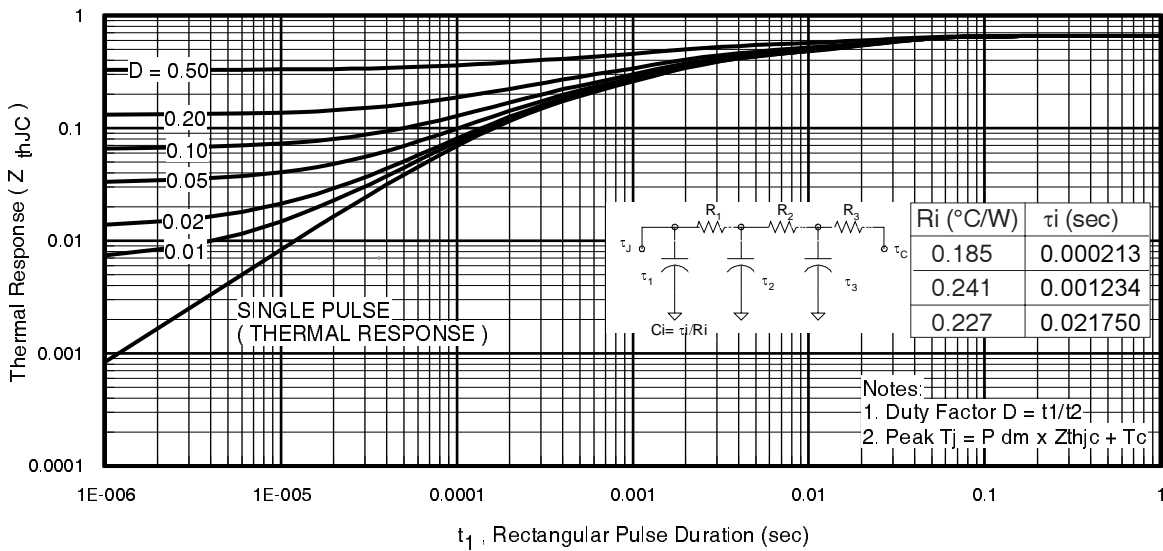
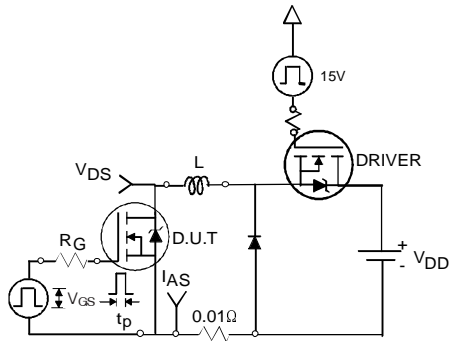

Fig 11. Maximum Effective Transient Thermal Impedance, Junction-to-Case
Fig 12a. Unclamped Inductive Test Circuit
- ① Repetitive rating; pulse width limited by max. junction temperature. (See fig. 11).
- ② Limited by T_{Jmax} , starting $T_J = 25^\circ\text{C}$, $L = 0.079\text{mH}$, $R_G = 25\Omega$, $I_{AS} = 75\text{A}$, $V_{GS} = 10\text{V}$. Part not recommended for use above this value.
- ③ Pulse width $\leq 1.0\text{ms}$; duty cycle $\leq 2\%$.
- ④ $C_{oss\text{ eff.}}$ is a fixed capacitance that gives the same charging time as C_{oss} while V_{DS} is rising from 0 to $80\% V_{DSS}$.
- ⑤ Limited by T_{Jmax} , see Fig.12a, 12b, 15, 16 for typical repetitive avalanche performance.
- ⑥ This value determined from sample failure population. 100% tested to this value in production.
- ⑦ This is only applied to TO-220AB package.
- ⑧ When mounted on 1" square PCB (FR-4 or G-10 Material). For recommended footprint and soldering techniques refer to application note #AN-994.
3. Equation below based on circuit and waveforms shown in Figures 12a, 12b.
$Z_{thJC}(D, t_{av})$ = Transient thermal resistance, see figure 11)